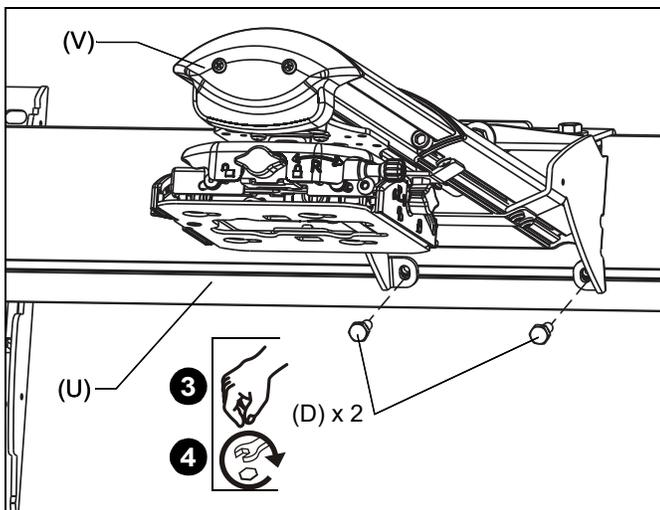

Figure 10
- Loosely install two 1/4-20 x 5/8" hex head bolts (D) through holes on projector mount assembly boom arm (V) and into sliding nuts on projector mount wall bracket (U). (See Figure 10)